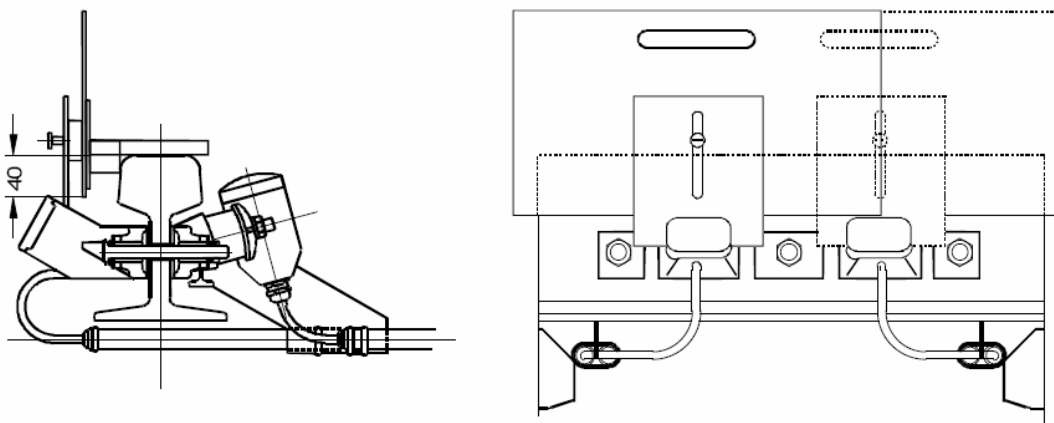

Figure 4 Dummy Wheel Set up
5. Place the dummy wheel (part number 19982 3100x, set to 40mm), centrally over RX1 vertically to the running rail (see Figure 4) measure –ve MESSAB 1, which should be between -80 mVDC and -1VDC i.e. with the same amplitude but opposite polarity as the received rectified signal with no dummy wheel present (+ve MESSAB 1).
13. Place the dummy wheel (part number 19982 3100x, set to 40mm) centrally over RX1 vertically to the running rail (see figure 4) for two minutes – this will clear any latched warnings